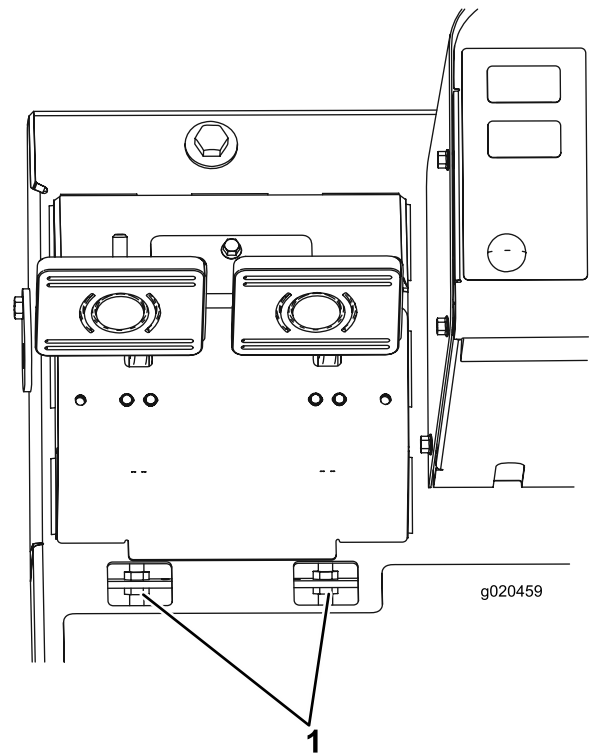

Figure 70
- B. Loosen the front nut on the threaded end of the brake cable (Figure 70).